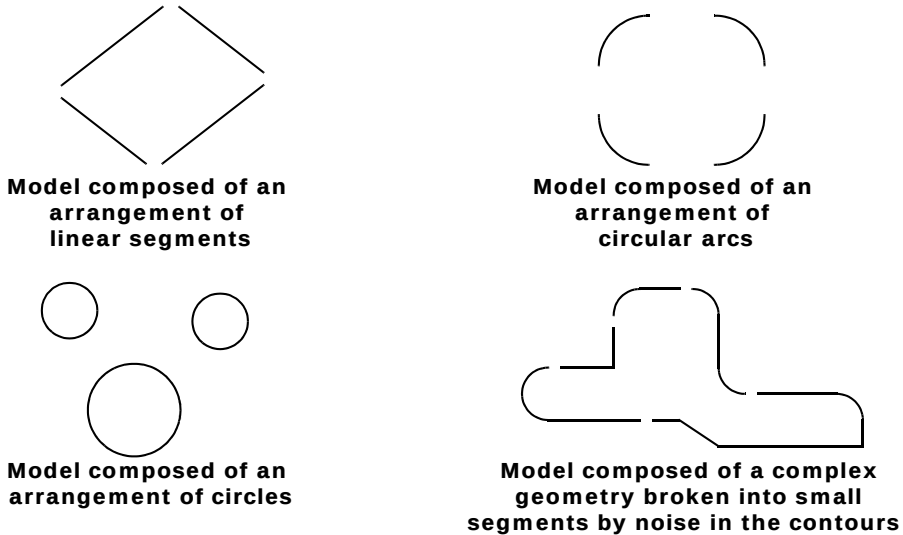

Figure 145 Model Defined with an Arrangement of Partial Transform Features
- Features that only define a partial Scale/Translation transform (complete circles, circular arcs, lines) can also be used but the arrangement of these features in the Model *must* define a *complete* Scale/Rotation/Translation transform as shown in Figure 145.